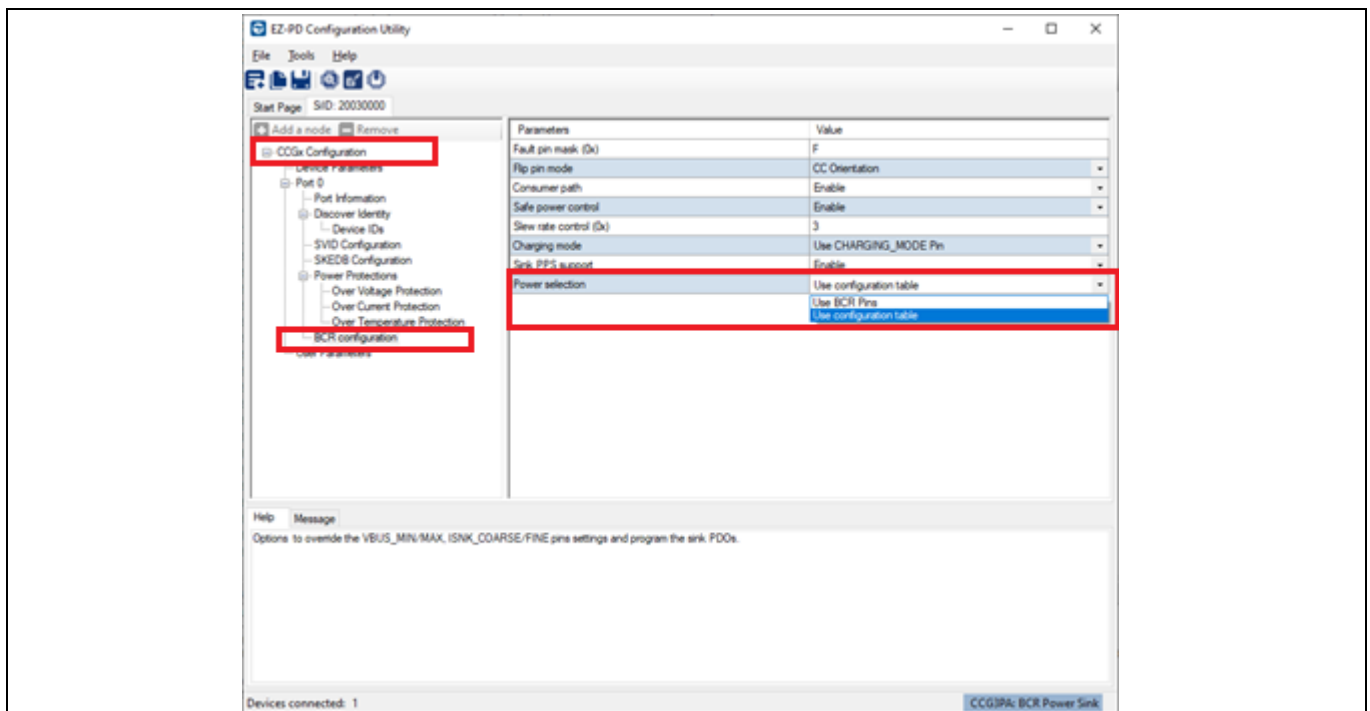

Figure 16 Changing the power selection to “Use configuration table”
8. In the panel on the left of the EZ-PD™ configuration utility window, select **CCGx Configuration > BCR configuration** as shown in **Figure 16**. In the **Power Selection** option on the right-side panel, use the dropdown menu and change the option from “Use BCR pins” to “Use configuration table” as shown in **Figure 16**. This option allows the users to override the VBUS_MAX, VBUS_MIN, ISNK_COARSE and ISNK_FINE values set using the rotary switch SW1 or the resistor dividers and use the sink PDOs set in the configuration table using the EZ-PD™ configuration utility.